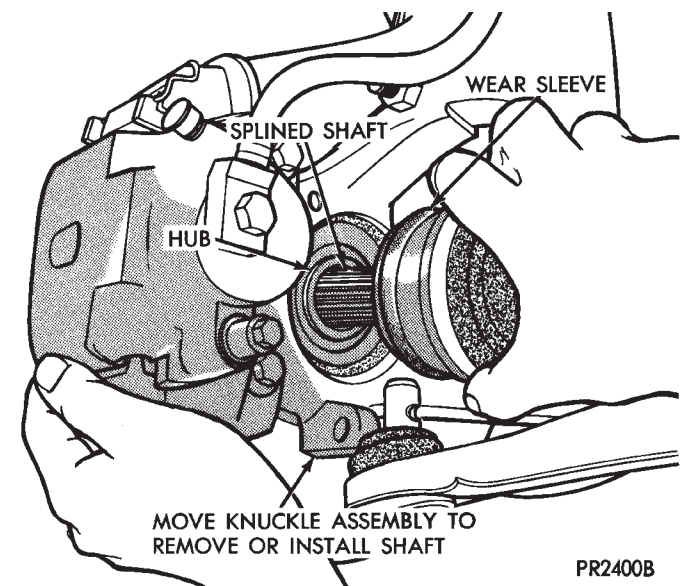

Fig. 14 Install Outer Shaft into Hub
(2) Push knuckle (hub) assembly out and install splined outer C/V joint shaft in hub (Fig. 14).
CAUTION: Steering knuckle clamp bolt shown in (Figs. 14 and 15) is Prevailing Torque Type, original